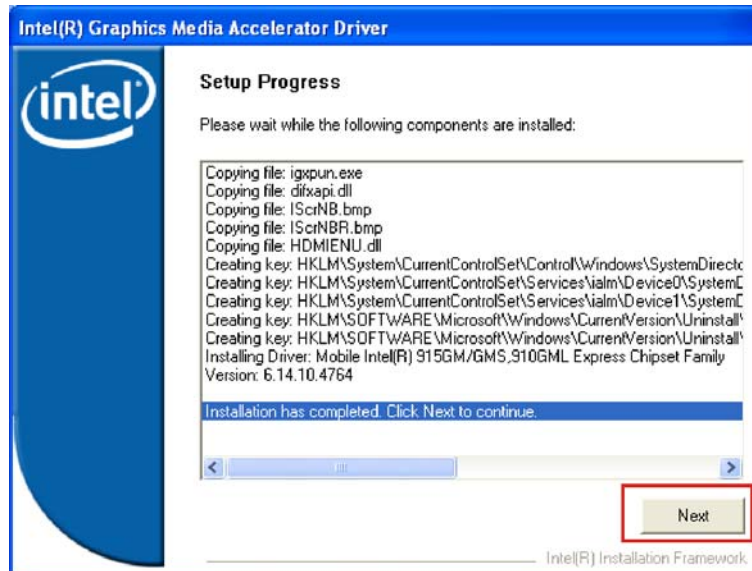

Figure 6-12: Graphics Setup Progress
Step 10: The **Setup Progress** window appears (Figure 6-12).
Step 11: The setup progress window shows the progress of the driver installation. Click **NEXT** when the drivers are all installed (Figure 6-12).